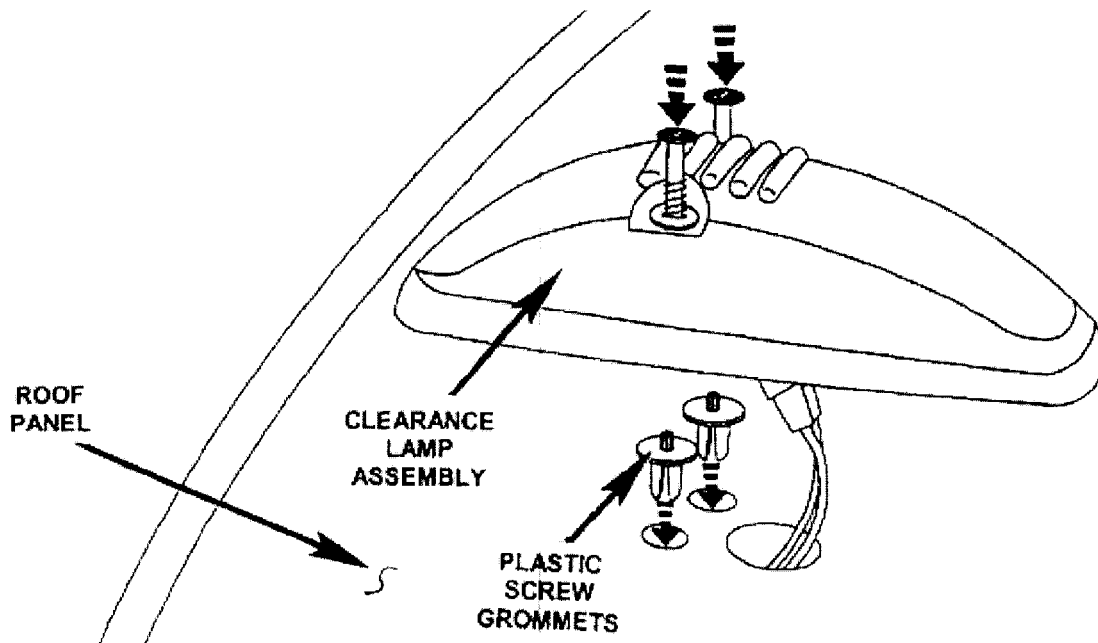

Figure 4
19. Install plastic screw grommets into the 1/4 inch holes in the roof (Figure 4).
23. Mount the clearance lamp lenses to the roof with the two screws provided in the kit (Figure 4). Tighten the screws to 14 in. lbs. (1.6 N·m).